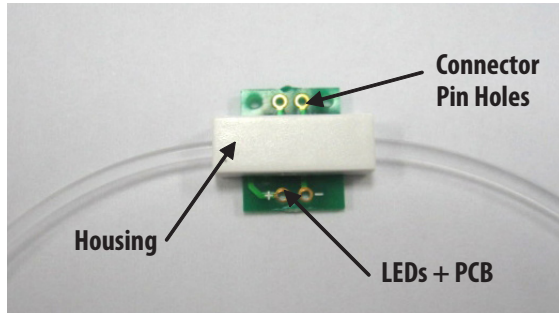

Figure 1.
- The flexible light strip module can be connected using the hook method to the customer's motherboard. It is simple to use, helps to lower customer costs and eliminates concerns over optical and mechanical coupling as shown in Figure 1 below.